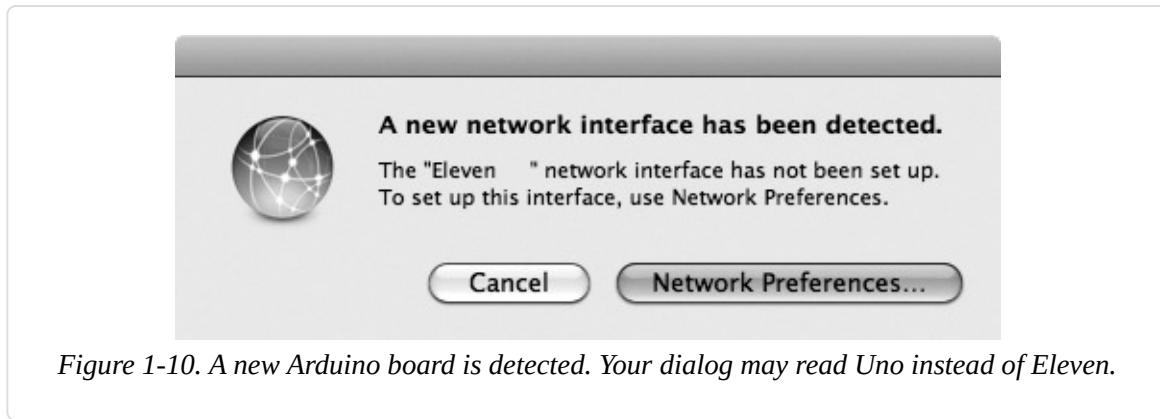

Figure 1-10. A new Arduino board is detected. Your dialog may read Uno instead of Eleven.
5. Now connect your Arduino to your Mac with the USB cable. After a moment, the dialog shown in Figure 1-10 will appear.